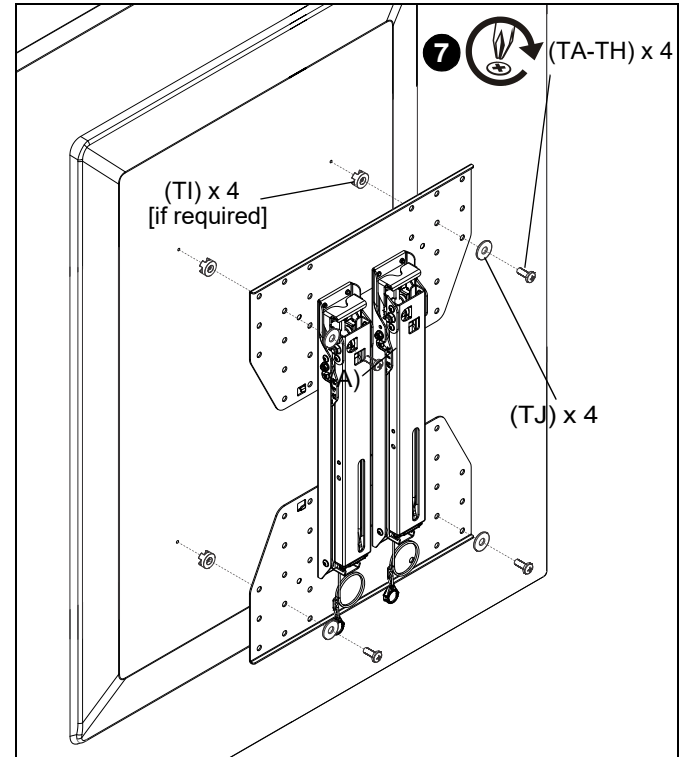

Figure 22
- Select screw *diameter* by examining hardware (TA-TC and PD-PH) (6mm or 8mm) and comparing with mounting holes on display. (See Figure 22)
- Select screw *length*: (See Figure 22)
- By hand, insert **SHORTEST** length screw of selected diameter (TA-TH) through 3/16" washer (TJ) (M6 screws ONLY), bracket (A or B), nesting spacer (TI, if required), into display mounting hole. Do NOT thread screw into hole at this time.
- Use selected screws (TA-TH), washers (TJ) and spacers (TI), if necessary, to connect interface brackets (A and B) to back of display. (See Figure 22)